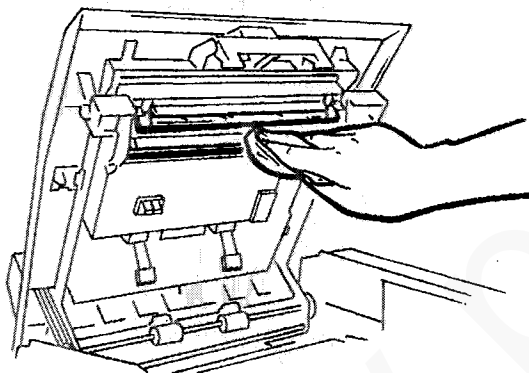

Figure 1. ROS window cleaning
2. (Figure 1) Open the printer cover and carefully clean the ROS window using a lint free cloth.